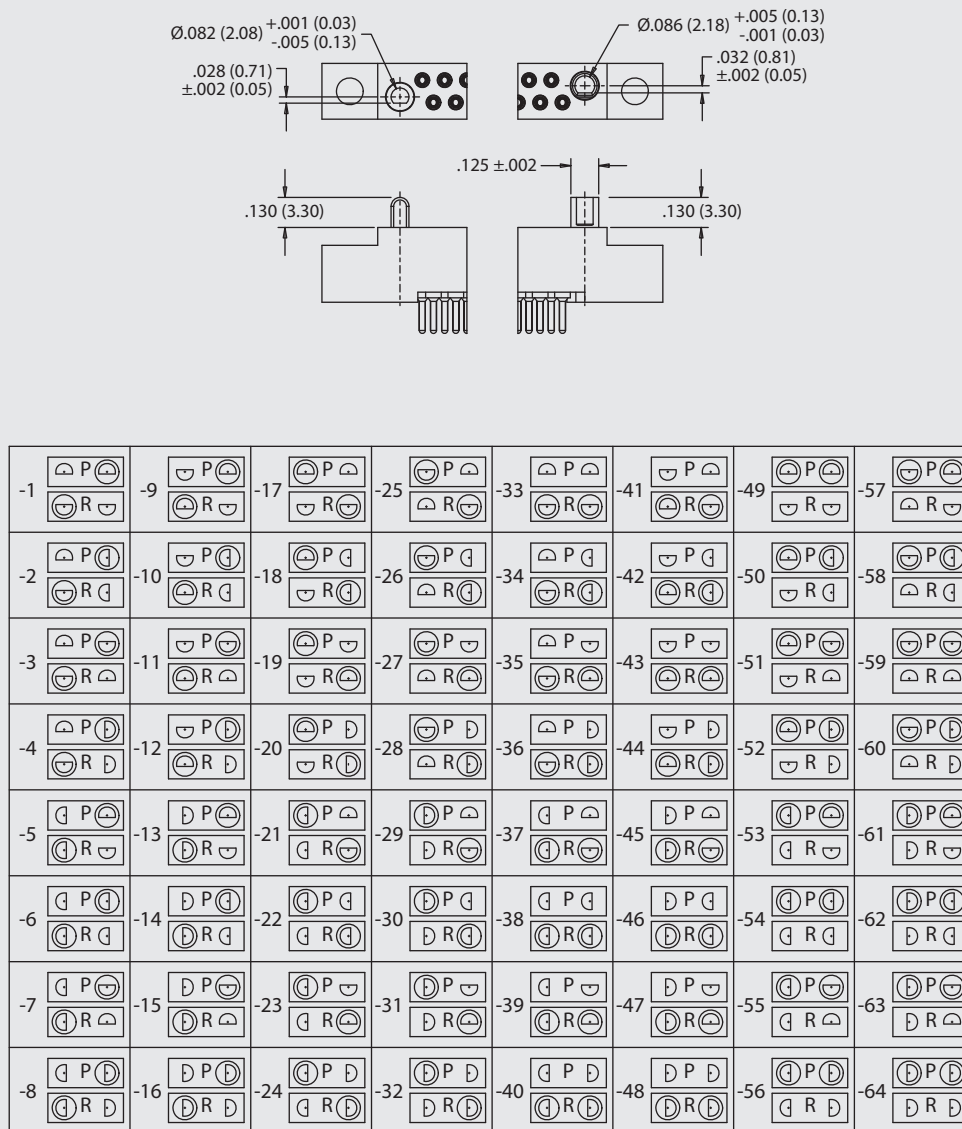

FIGURE 10. POLARIZATION CONFIGURATION CHART
(SEE FIGURE 10 FOR POLARIZATIONS)FIGURE 9. GUIDESET, POLARIZED (Y-1)
(SEE FIGURE 10 FOR POLARIZATIONS)
1. When polarized guide pins are removed and reinstalled in another position, apply Loctite 83-CV or equivalent to the threads. Use spanner wrench (600-229) to reconfigure per Figure 10. Guide sets, as installed, shall withstand 7 in*oz backoff torque applied through the mounting nut.